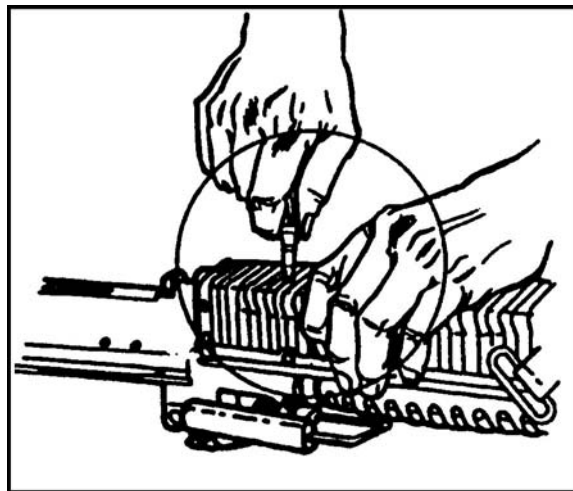

Figure 12. Forearm latch.
- b. Insert a pointed object into the latch hole at the bottom rear of the forearm assembly (Figure 12).